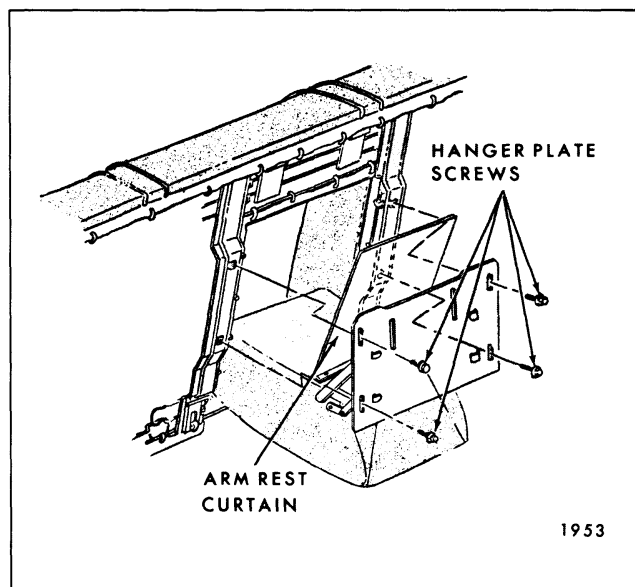

Fig. 9-57-Rear Seat Back Arm Rest and Hanger Plate
2. On back side of rear seat back, remove four screws securing arm rest hanger plate to seat back supports; then, carefully remove arm rest and hanger plate assembly from seat back (Fig. 9-57).